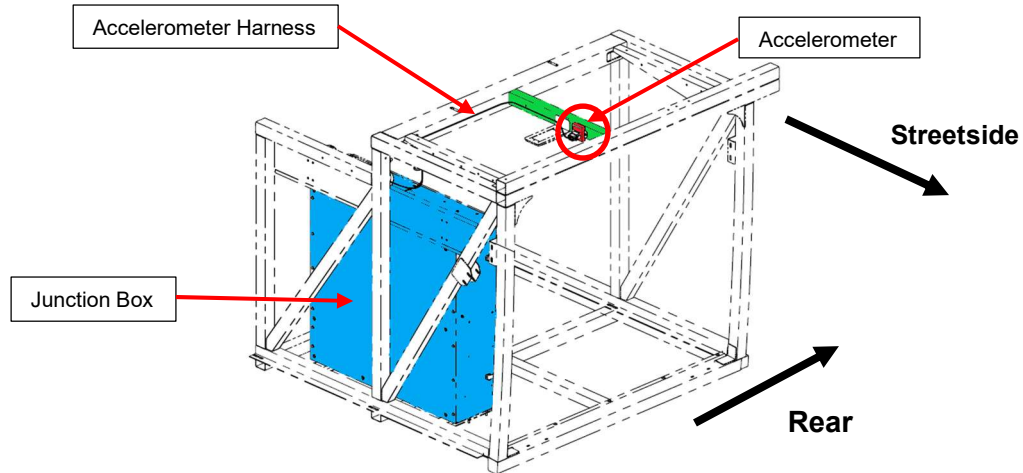

Figure 2: New Accelerometer Mounting Location.
7. Locate the transverse frame member at the top of the baggage bay near the center on the curbside. Figure 2.
10. Route the accelerometer harness along the existing harnesses to the junction box as seen in Figure 2.